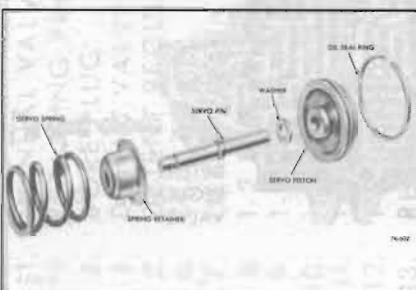

Figure 74-602
1. Inspect servo pin for scores and cracks. See Figure 74-602.